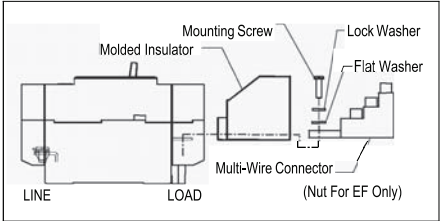

Fig. 2-1. Multi-Wire Terminal Connector Kit
a. Tapped Terminals (Refer to Fig. 2-1):
b. E Collar Assemblies (Refer to Fig. 2-1):
- c. G Frame Breaker with Installed Aluminum Single Wire Connectors (Refer to Fig. 2-1):